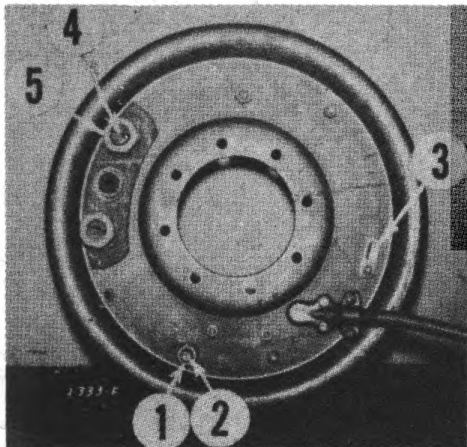

Figure 22. BRAKE BACKING PLATE
2. Loosen the eccentric lock nut (1) and rotate the eccentric (2) in the direction of forward wheel rotation until there is a brake drag. Then rotate the eccentric very slowly in the opposite direction until the drum is free of brake drag.
3. Tighten the eccentric lock nut (1). Be sure the eccentric does not turn as the nut is tightened.
4. Uncover the adjusting screw hole (3) and rotate the adjusting screw (notched wheel) toward the drum with screw driver, moving the outer end of the tool toward center of wheel until the shoes are tight against the drum. See Figure 22.